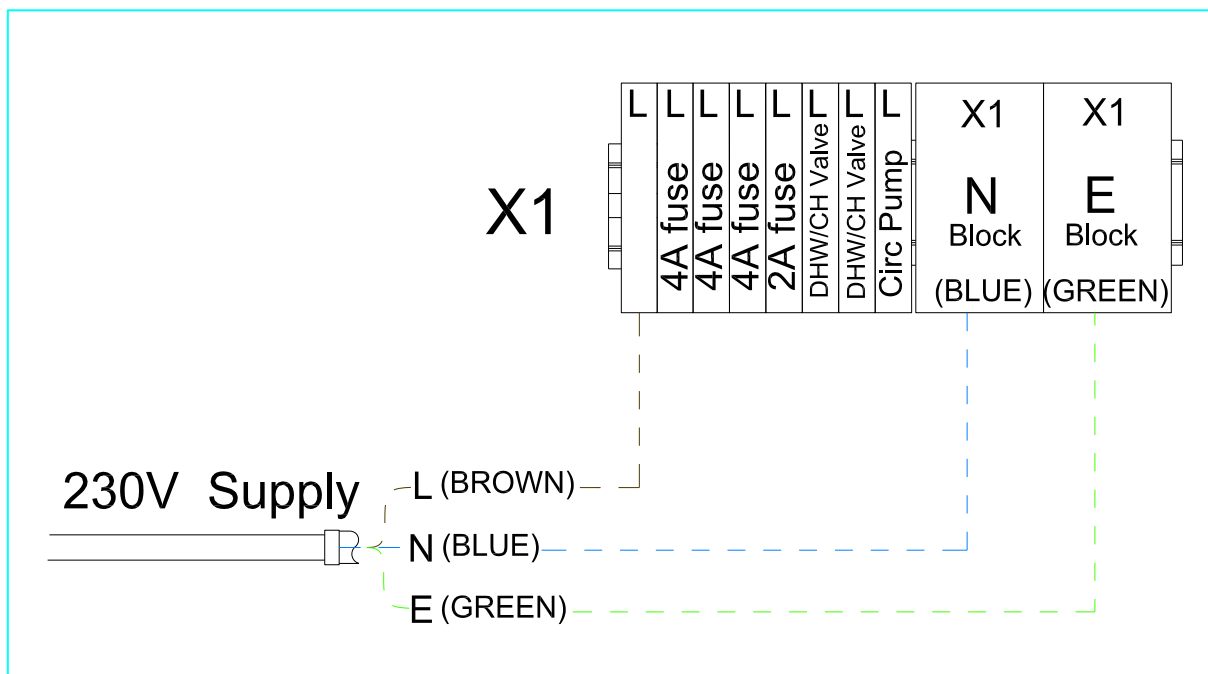

Figure 8: Primary Electrical Connections, Live, Neutral & Earth
- Primary connections, 5.8.1. A three core cable must be connected between the supply isolator and the cylinder connector block. See Figure 8.
In both retro fit and new build installations, a 3 core cable must be taken from the isolator [typically a 16Amp double pole fused spur] and connected to the primary connector block as illustrated in Figure 8.
- Neutral and Earth wires must be connected to the blue and green/yellow connectors respectively, as per Figure 8.